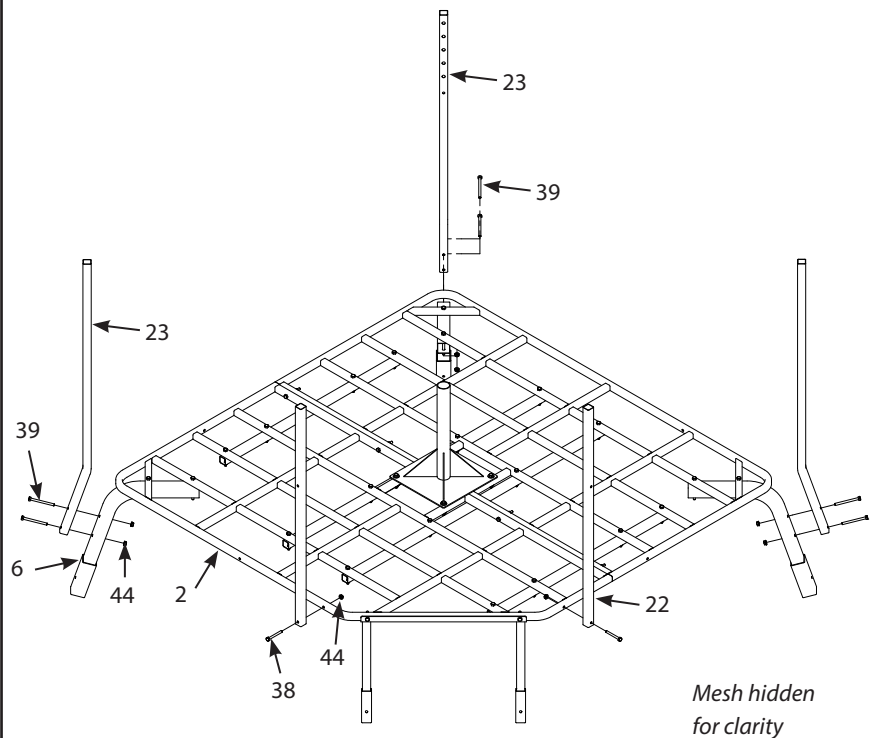

FIGURE 6
- Attach the three vertical corner supports (23) to the leg-to-platform attachment parts (6) using two 1/4-20 X 3 IN bolts (39) and 1/4-20 nuts (44) for each support. **SEE FIGURE 6.**
Attach the two vertical entry supports (22) to the front platform (2) using one 1/4-20 X 2-1/4 IN bolt (38) and 1/4-20 nut (44) for each support. **SEE FIGURE 6.**